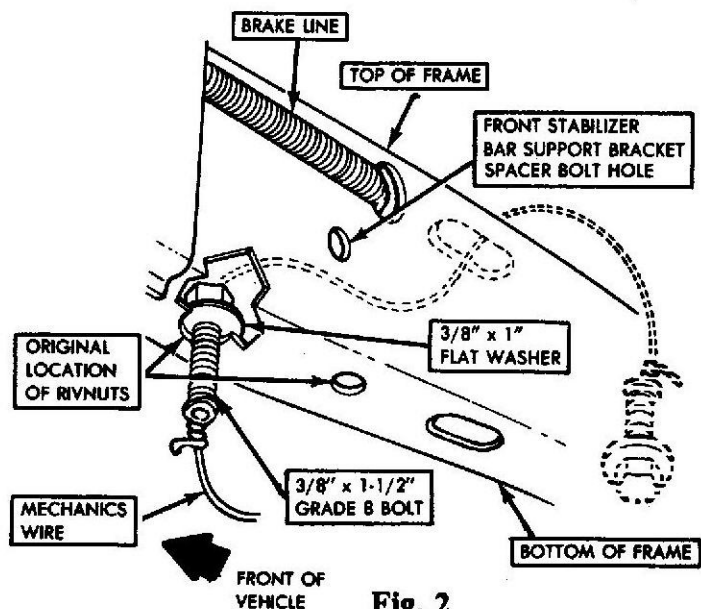

Fig. 2
(3) Run mechanics wire up through hole where Rivnut was located and out through elliptical hole located on top of frame approximately 3" rearward of Rivnut hole (see Fig. 2).
(4) Attach a $3/8" \times 1-1/2"$ SAE grade 8 bolt with a $3/8" \times 1"$ O.D. flat washer to wire and pull shank of bolt through hole (see Fig. 2).